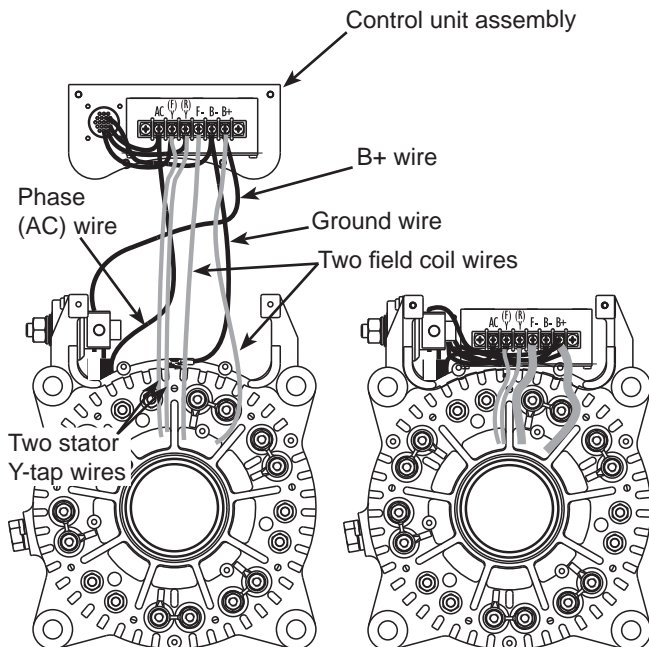
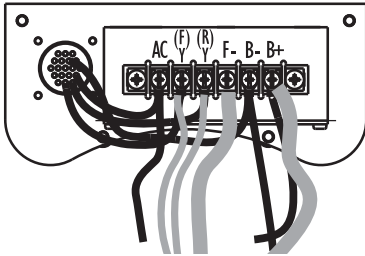

Figure 1 – Replacing Control Unit Assembly and/or B+ Terminal on N1388 Alternator
Figure 3 – Reattaching Wiring to Terminal Strip
21. Reconnect wiring removed from terminal strip. See Figure 1 on page 1 and Figure 3 below. Torque screws to 1.2 Nm/10 lb. in.